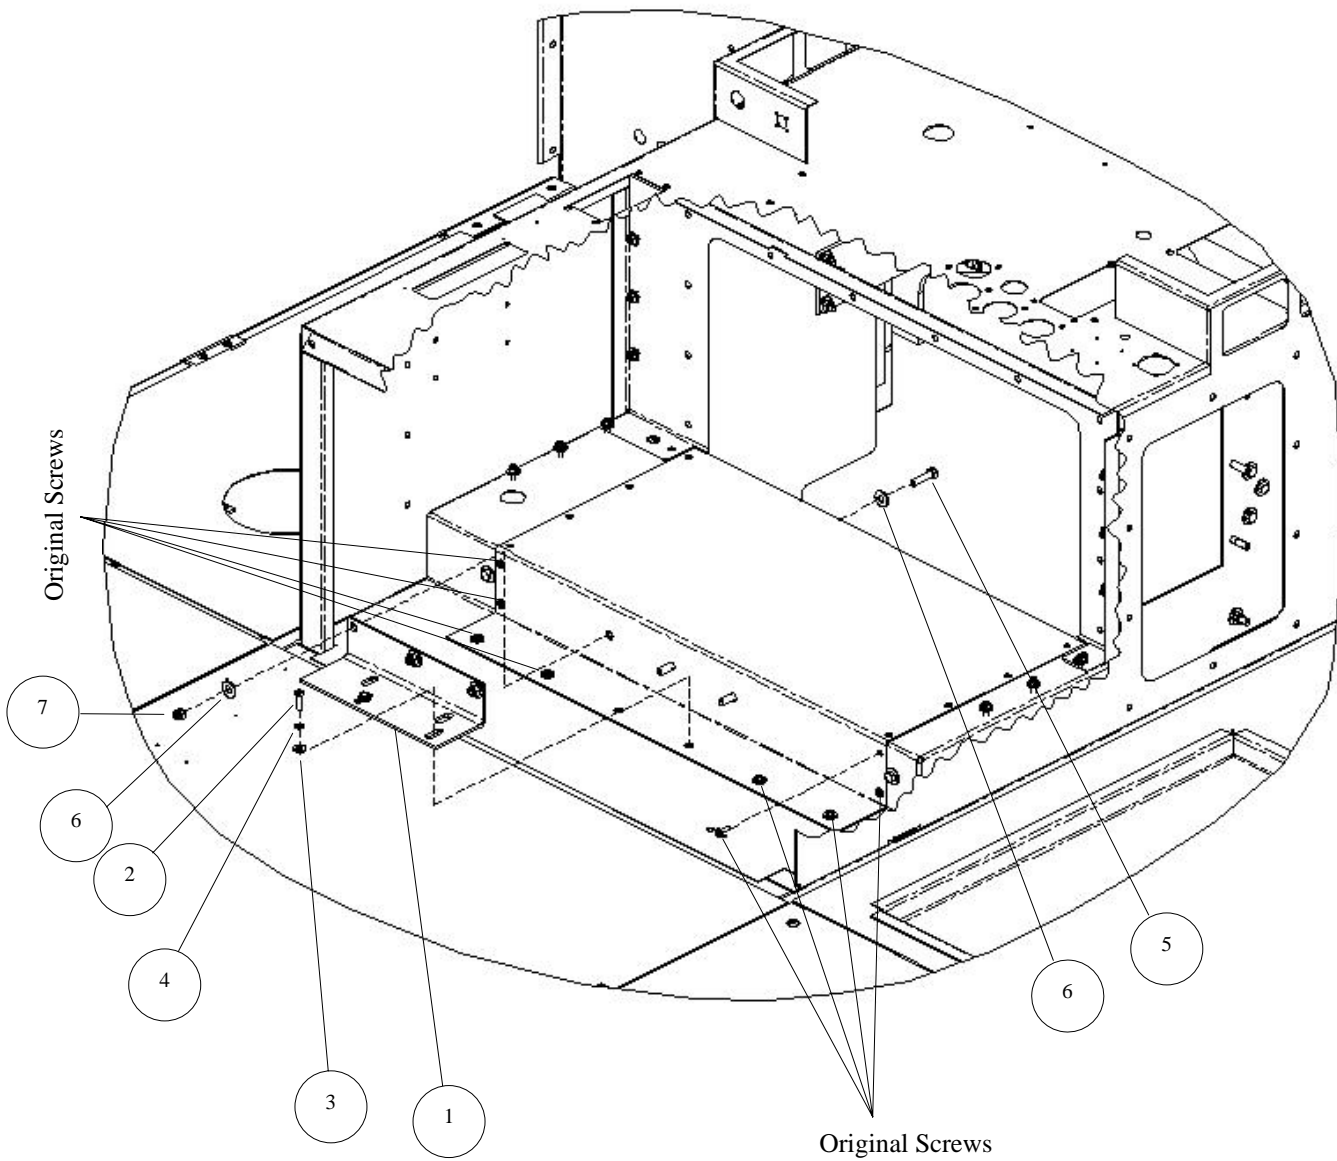

Figure 3-72. Doghouse Upper Bracket Installation.
4. Install doghouse upper bracket as follows (see Figure 3-72):
- b. Install doghouse upper bracket (1) and secure with two bolts (2), flat washers (3), and lock washers (4). Torque bolts to 7 lb-ft.